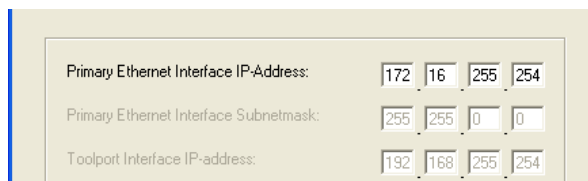

Figure 59. The IPConfig dialog box with factory default setting
2. Click the **Connect** button and press the **Init** push-button on the PLC until the **Run LED** starts to blink. Wait for a minute until a message appears, see Figure 59.